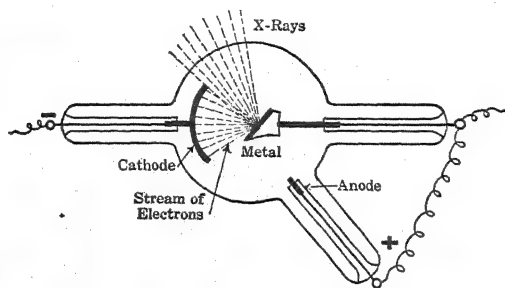

FIG. 217. — X-ray tube.
**373. How Atomic Numbers Are Determined.** In Section 135 we learned that Moseley was able to determine the atomic numbers of the elements. The X-rays are ether waves that have a high frequency and a short wave length. Moseley discovered that the length of these X-ray waves depends upon the kind of metal that is used as a target, or anticathode. He therefore used various metals from aluminum to gold as targets for the cathode rays, and found that the X-ray waves become shorter as the number of excess protons in the nucleus of the element increases. Hence the atomic number increases as the length of the waves of the X-rays, when affected by the properties of the element used as a target, decreases. (See Fig. 217.) Moseley found that be-